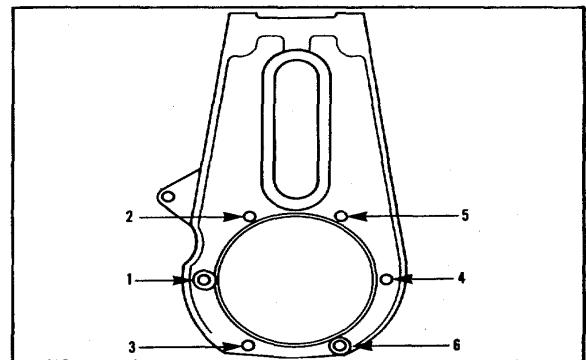

Fig. 14-50. The Tightening Sequence For The Fan Bracket.
4. Tighten the capscrews for the fan bracket or clamp ring. Follow the tightening sequence shown in Fig. 14-50. Tighten the capscrews to 12 to 15 ft.-lbs. [16 to 20 N•m] torque.